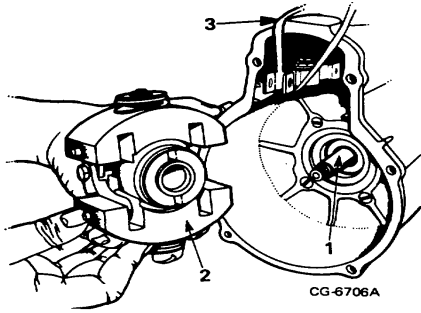

Figure 10. Installing Flyweight Assembly
2. Install flyweight assembly to camshaft (Figure 10). Install spacer shim and secure to camshaft with slotted cylindrical nut. Spacer shims are available in .05 mm increments to adjust for axial end play of governor weight assembly, specified at .05 .10 mmm (.002 .004 in). Use cylindrical nut tool KDEP 2988. Torque nut to specifications.